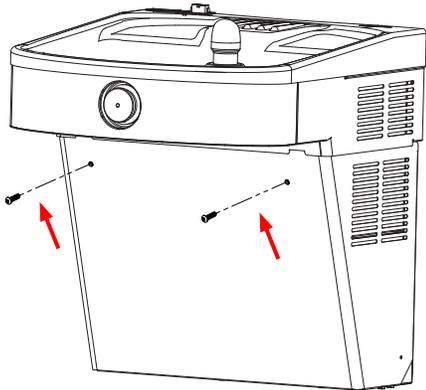

Fig. 2
1. Remove the two security screws (size T25) from the front panel. (see Fig. 2)
2. Refer Fig 2 to Fig 5, Pg. 8 for wrapper removing instructions.